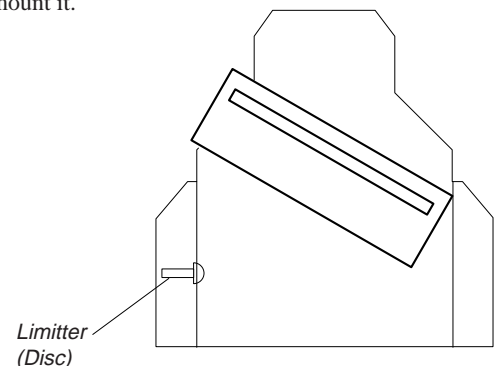

Fig. 2
- Tilt the tool slightly as shown in Fig. 2 to make it easier for it to be inserted. As it will be caught by the limiter (disc), pull it with your hand and mount it.